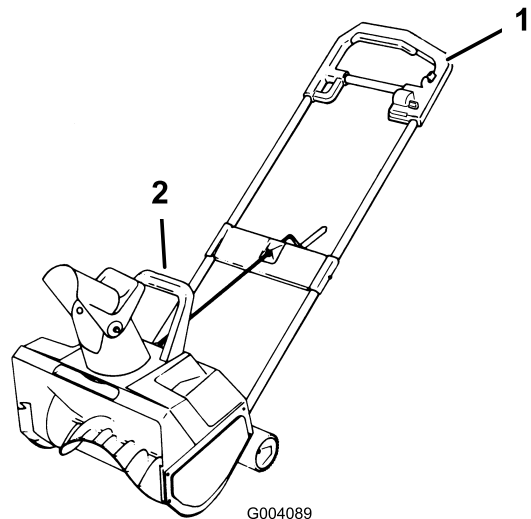

Figure 11
- To shave down large banks of snow, lift the snowthrower by the primary and secondary handles (Figure 11) and place the snowthrower on the bank. Let the weight of the snowthrower shave down the bank in a back-and-forth motion.